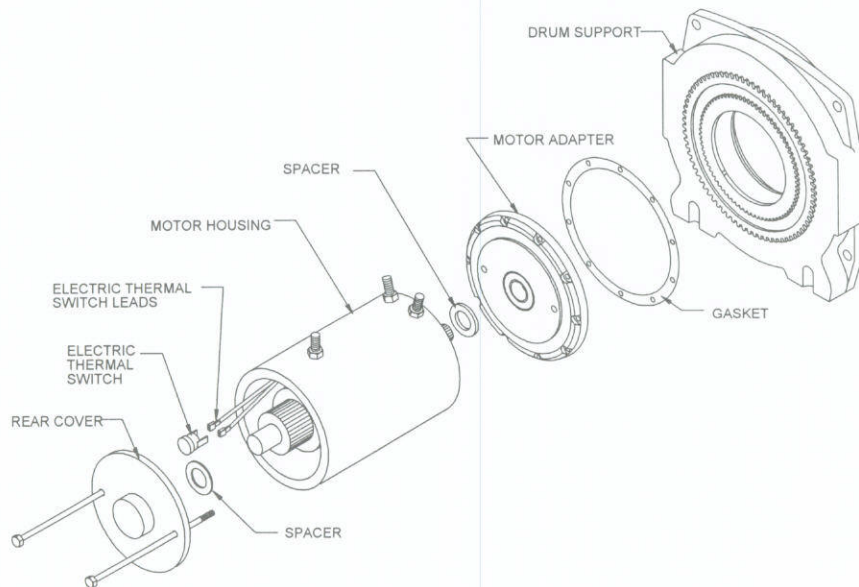

Figure 2.12
9. Remove motor and gasket from drum support assembly (*Figure 2.12*).
5. Connect thermal switch to two electric thermal switch leads (*Figure 2.12*).